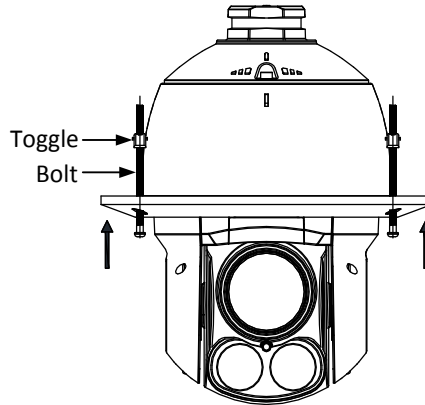

Figure 3-19 Install Toggle Bolts
- 4) Reinstall the toggles as shown in Figure 3-19.